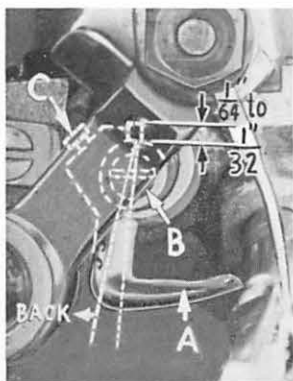

Fig. 7
Insert upper looper (A, Fig. 7) in its holder. Screw (B) holds upper looper in its holder and permits it to be pushed in or out, or turned around its shank. Insert upper looper holder into upper looper shaft (if not already in place). Screw (C) on the clamp holds the upper looper holder in the shaft. Locate upper looper in its holder so that the shank extends $\frac{1}{64}$ to $\frac{1}{32}$ inch beyond holder (Fig. 7).